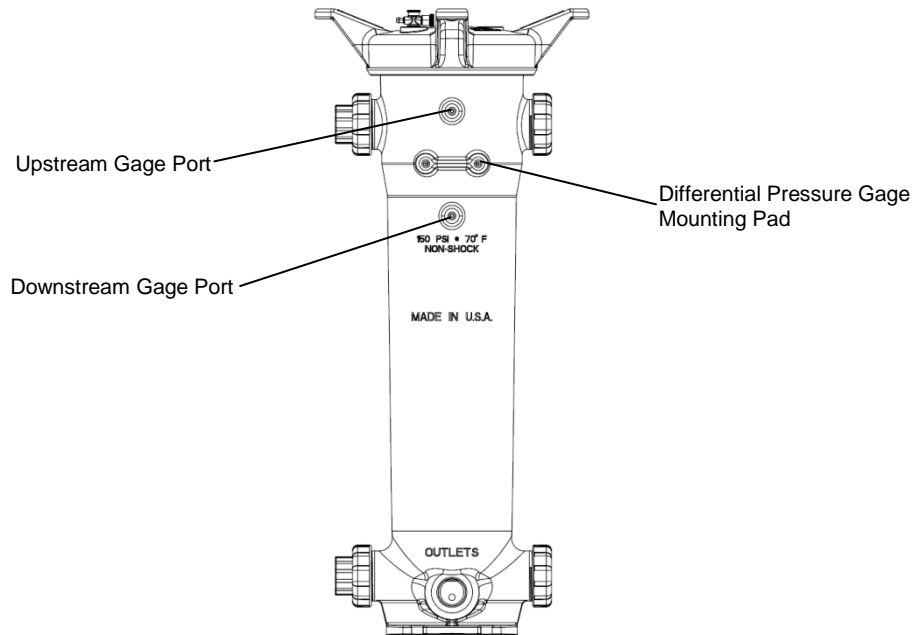

Fig. 2: Differential pressure gauge ports (back view)
1.4.1.2 Remove threaded pipe plugs from upper and lower differential pressure ports (if vessel provided with drilled and tapped differential pressure ports). (See fig. 2.)